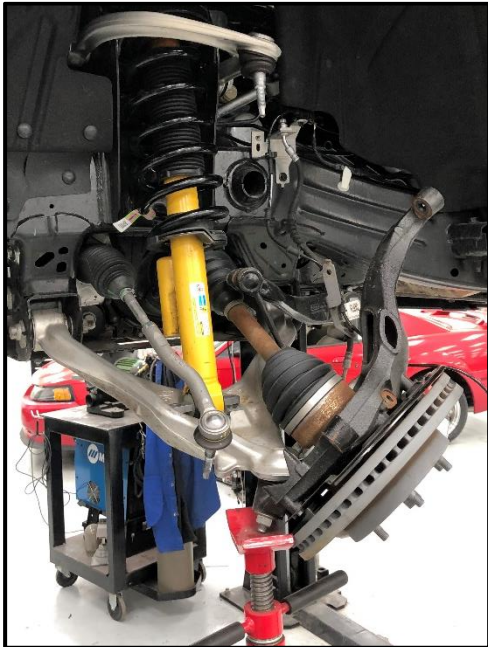

Figure 7
9. Hit the knuckle with hammer on the side to separate the ball joint from the knuckle, but don't let the knuckle pull out so far that the shaft pulls out of the differential (**Figure 7**).